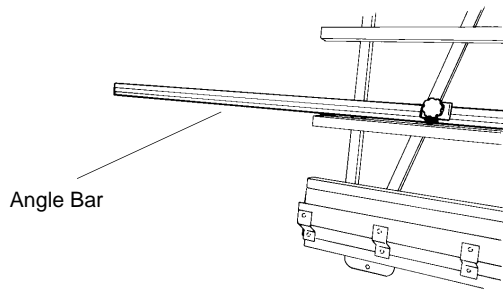

Figure 43: Installing the Quick Stop
2. Set the assembled angle bar on the next-to-lowest horizontal bar on the left side (as you are looking at the frame in Fig. 43 & 44). The standard ruler will be covered after installing this accessory.